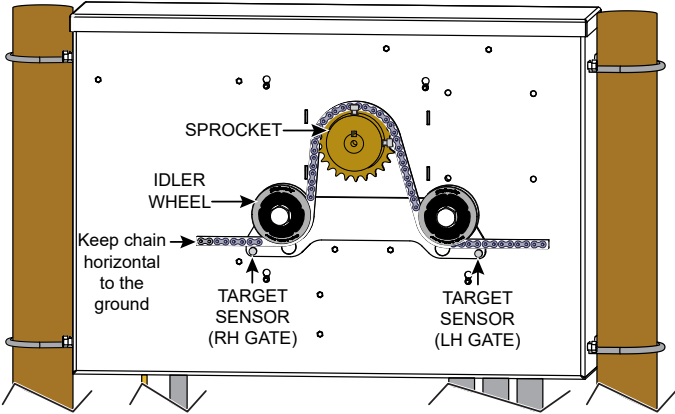

Figure 11. Rear View Chain Installation - Front View
5. Feed the chain around the idler wheels and over the sprocket (See Figure 11) and attach the chain to the bracket on the opposite end of the gate. Make sure the chain is horizontal to the ground and parallel to the gate.
- 1. For a front installation, feed the chain over the sprocket and beneath the idler wheels. See Figure 11.